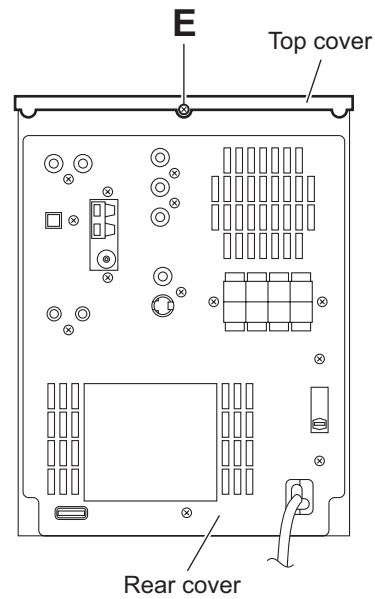

Fig.5
3.1.2 Removing the top cover (See Figs.5 to 7)
- (1) From the back side of the main body, remove the screw **E** attaching the top cover to the rear cover. (See Fig.5)